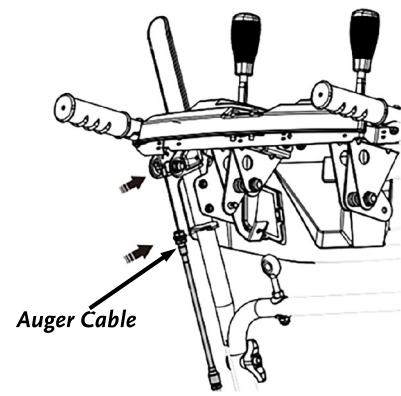

Figure 8
4. Install top of Auger Cable and Drive Cable into the holes on the left and right Handles (**Figure 8**).